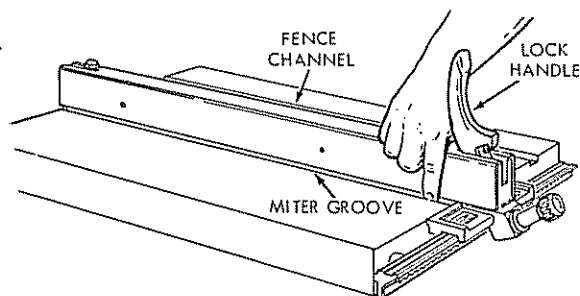
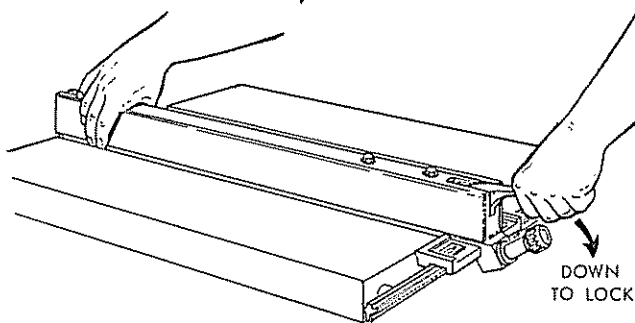
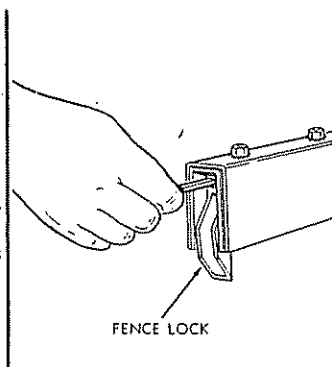
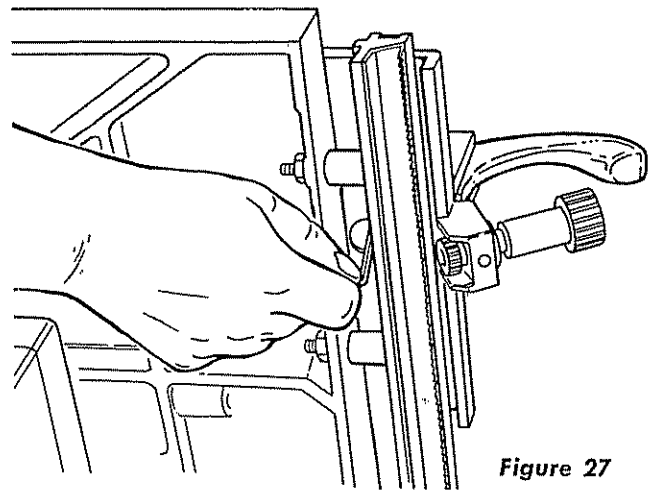

Figure 23
Figure 24
Figure 26
Figure 27
- (1) With the lock handle released (not latched), slide the fence on the saw table so the front end of the channel is flush with the side of one of the two miter grooves. (See figure 23.) This can be checked by using your fingers as shown to "feel" for correct alignment. Shift the rear of the fence to the right or left slightly, causing fence not to be square with the front edge of the table, nor parallel to the miter groove.
- (2) Push down on the lock handle carefully (do not force) while watching the rear of the fence for its correcting action.
- (3) The lock handle should lock in the down position. Do not force the handle, as it is not necessary for the handle to be all the way down to lock the fence. (See figure 24.) The rear of the fence should move to correct itself, and do so parallel (flush) with the miter groove in saw table throughout its full length. Alignment may be checked with the forefingers to determine if the fence is flush with the side of miter groove, as shown in figures 23 and 24.
- (4) If the lock handle responded as described above, and the fence aligned itself with the table groove at both ends, the fence is properly adjusted and no further attention is necessary. If not, perform the following adjustment routine.
- (2) Using a 5/32-inch hex-L wrench, loosen the set screw at the rear of the fence approximately two turns. (See figure 26.) This screw is located in the fence lock just inside the channel, as shown.
- (3) Place the fence back on saw table and notice that the lock handle offers no resistance at any position.
- (4) Place the lock handle in "locked" position, and, using a 1/8-inch hex-L wrench inserted into the fence-pawl set screw from underneath the saw table, tighten the set screw finger tight. (See figure 27.) Do not use wrench or pliers — finger tight only.
- (5) Raise the lock handle, push the fence to one side (off square) at the rear. Then lock the fence with the lock handle, while watching to make sure it "corrects" itself. Repeat this operation two or more times. The fence should "correct" itself each time it is locked.
- (6) Raise the lock handle and align the fence with the miter groove (at the front end of the groove) as shown in figure 23. Push the lock handle down.